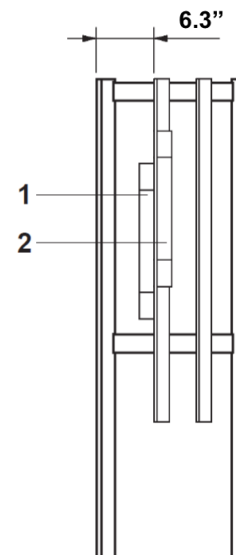

Figure 6.12
Once the masts are assembled, install the end-of-travel pad (1) and the upward overtravel pad (2), as shown in figure 6.12. The upward end-of-travel pad (1) must be positioned and adjusted in such a way for the cabin to stop at the desired height; position the overtravel pad (2) about 2 in higher. Perform various maneuvers to verify the correct operation of the stop.